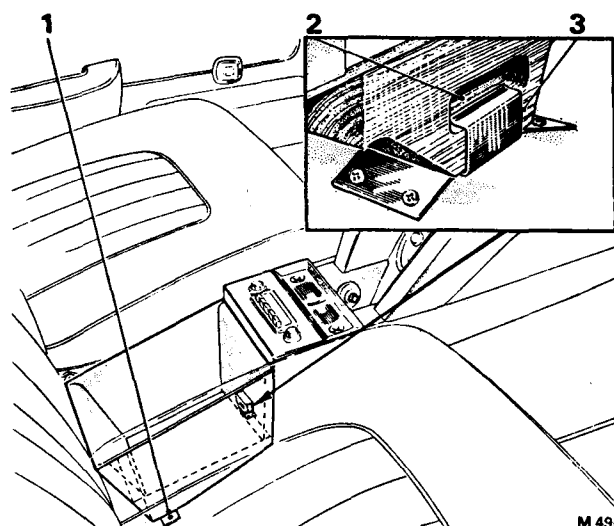

FIG. S116 METHOD OF SECURING THE STORAGE BIN WHEN A TAPE PLAYER IS FITTED INTO THE FRONT CENTRE CONSOLE (4-Door Saloon and Long Wheelbase Cars)
- (b) **Radio mounted between the centre console ashtray and the stowage bin** (see Fig. S116). Grip the stowage bin and pull towards the rear of the car to disengage the spring clip.